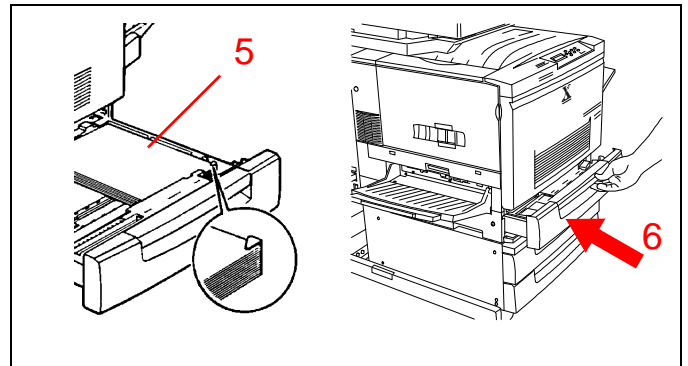

Figure 10
- See Figure 10. Reload the paper in the tray, being sure the paper is under the fluke at the front right side.